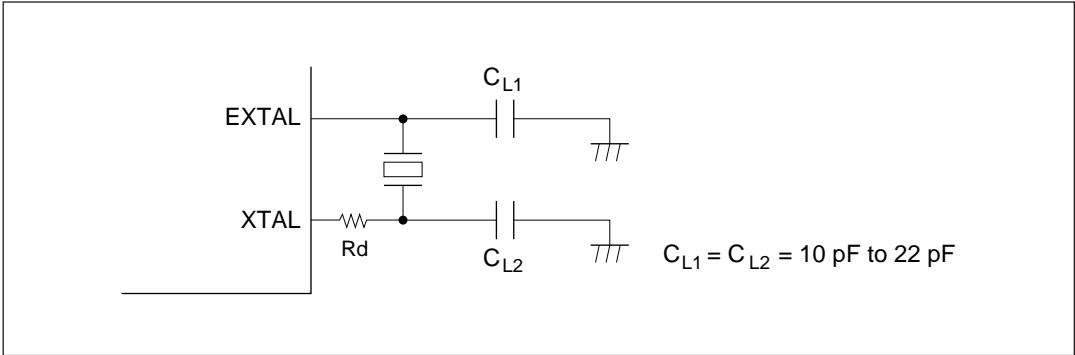

Figure 6-2 Connection of Crystal Oscillator (Example)
(1) Connecting an External Crystal
① **Circuit Configuration:** An external crystal can be connected as in the example in figure 6-2. Table 6-1 indicates the appropriate damping resistance R_d . An AT-cut parallel resonance crystal should be used.